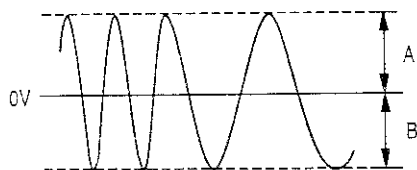

Fig.12 Balancing of Waveform
- 5) Adjust VR206(MD) so as to become A=B. (Refer to Fig. 12.)